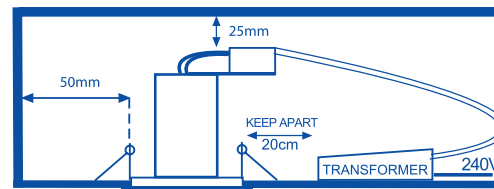

Fig. 1
1. Select the required position for the luminaire ensuring the clearances shown in Fig.1 are observed. Beware of joists, water pipes and electric cables. Use the cut-out template on the inside lid of the box to cut a hole in the ceiling for the type of luminaire to be fitted. For IP65 luminaires, insure the contact area between the fitting and the contact surface is smoothed off. A suitable silicon sealant may be used between the gasket of the downlight housing and the mounting surface. Failure to do this may result in the IP65 rating not being maintained.